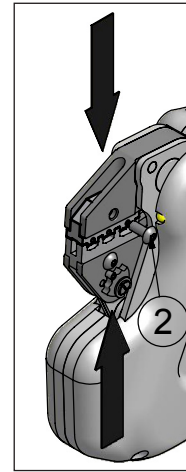

Figure 6
3. Press the Start button on the crimping tool briefly to close it so the upper part of the die set can be screwed into place (figure 6).